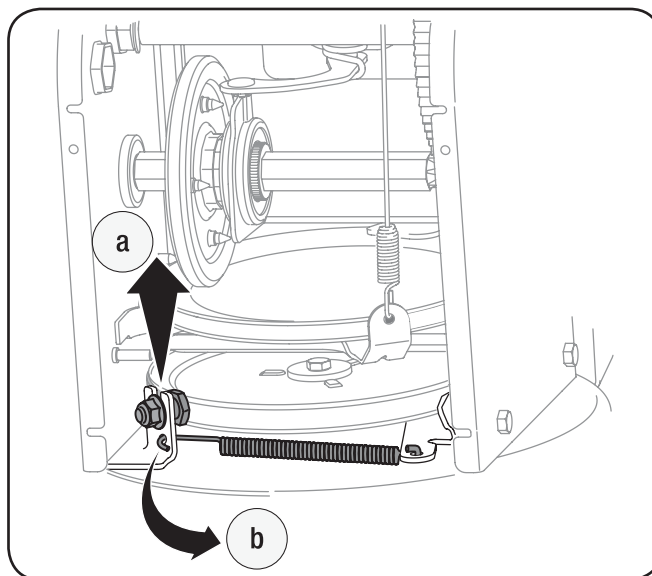

Figure 7-4
6. Remove the belt as follows. See Fig. 7-4.